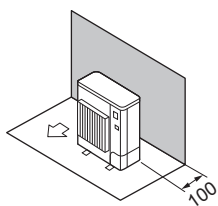

Fig. 3-6
- ① Obstacles at rear only (Fig. 3-6)